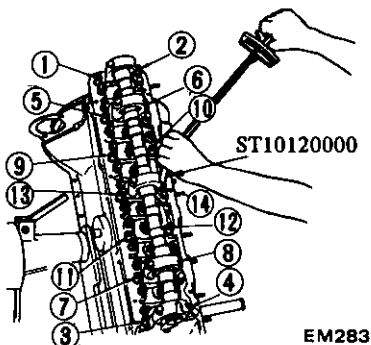

Fig. EM-20 Cylinder head bolt loosening sequence
Use Cylinder Head Bolt Wrench ST10120000 to remove cylinder head bolts. Loosen bolts from ① to ⑭ as shown in Figure EM-20.